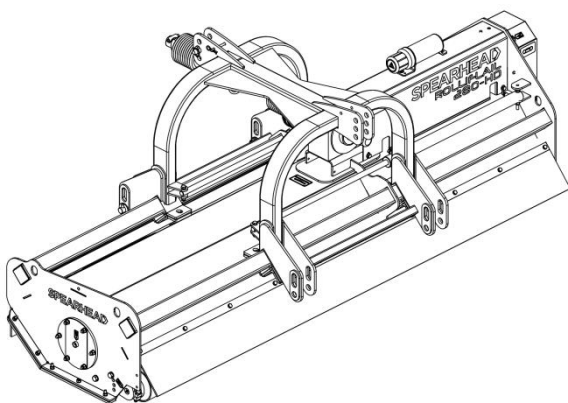

Figure 1.10
- 1.5.2.2 The machine is normally supplied configured for rear mount and 1000pm PTO drive, see Figure 1.10.